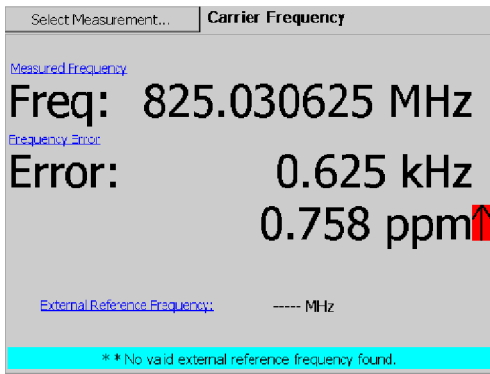

Figure 3-42: A Carrier Frequency display
4. Tap **Carrier Frequency**. See Figure 3-42.